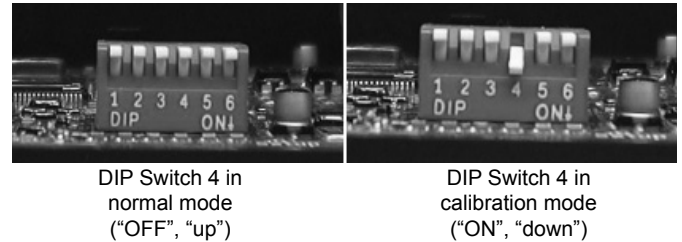

FIGURE 33a
This procedure assumes that the heater is installed with DIP switch 4 in the calibration (ON or "down") position (see Figure 33a).
3. Set DIP switch 4 in the normal (OFF or "up") position (see Figure 33a).